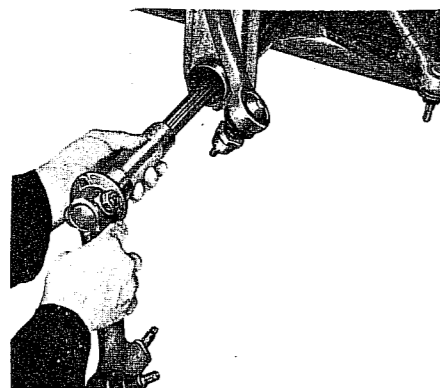

Fig. H.18. Removing the torsion bar and arm.
3. Use the remaining torsion arms to pull out the torsion bars (Fig. H 18).